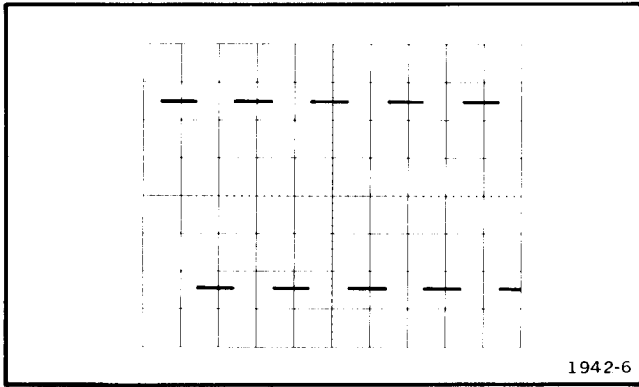

Fig. 2-4. Display of .5 V CAL OUT signal.
- Adjust the A SEC/DIV switch to obtain the desired display. Using the .5 V CAL OUT signal, the display should look like Fig. 2-4 (using a 10X probe with a VOLTS/DIV switch setting of .01 V and a SEC/DIV switch setting of .5 ms).